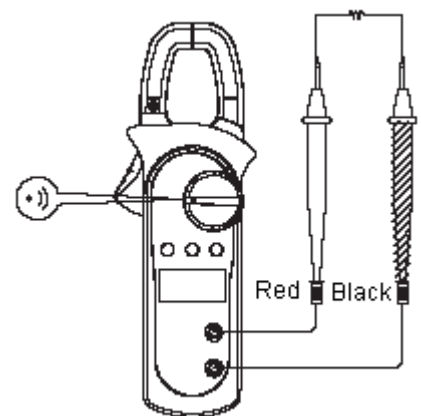

Figure 6
D. Testing for Continuity (see figure 6)